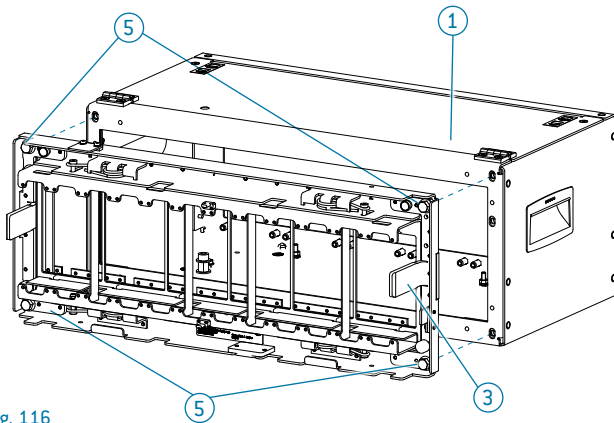

Fig. 116
- ▶ Attach the FOUR A adapter (3) to the matching enclosure (1).
- ▶ Use the fastening screws (5) to mount the FOUR A adapter (3) to the enclosure (1).
- ▶ See Fig 116